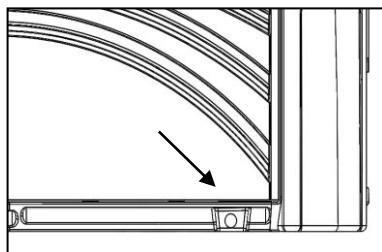

Figure 2
2. Insert the thicker side of the one of BASE TUBES into the bottom of the spa at the location shown in Figure 2.